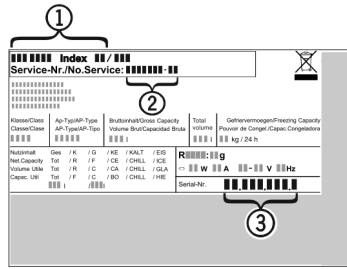

Fig. 4
- ▶ Read the appliance designation Fig. 4 (1), service No. Fig. 4 (2) and serial No. Fig. 4 (3) off the model plate located inside the appliance on the left-hand side.
- ▶ Notify the customer service, specifying the fault, appliance designation Fig. 4 (1), service No. Fig. 4 (2) and serial No. Fig. 4 (3).